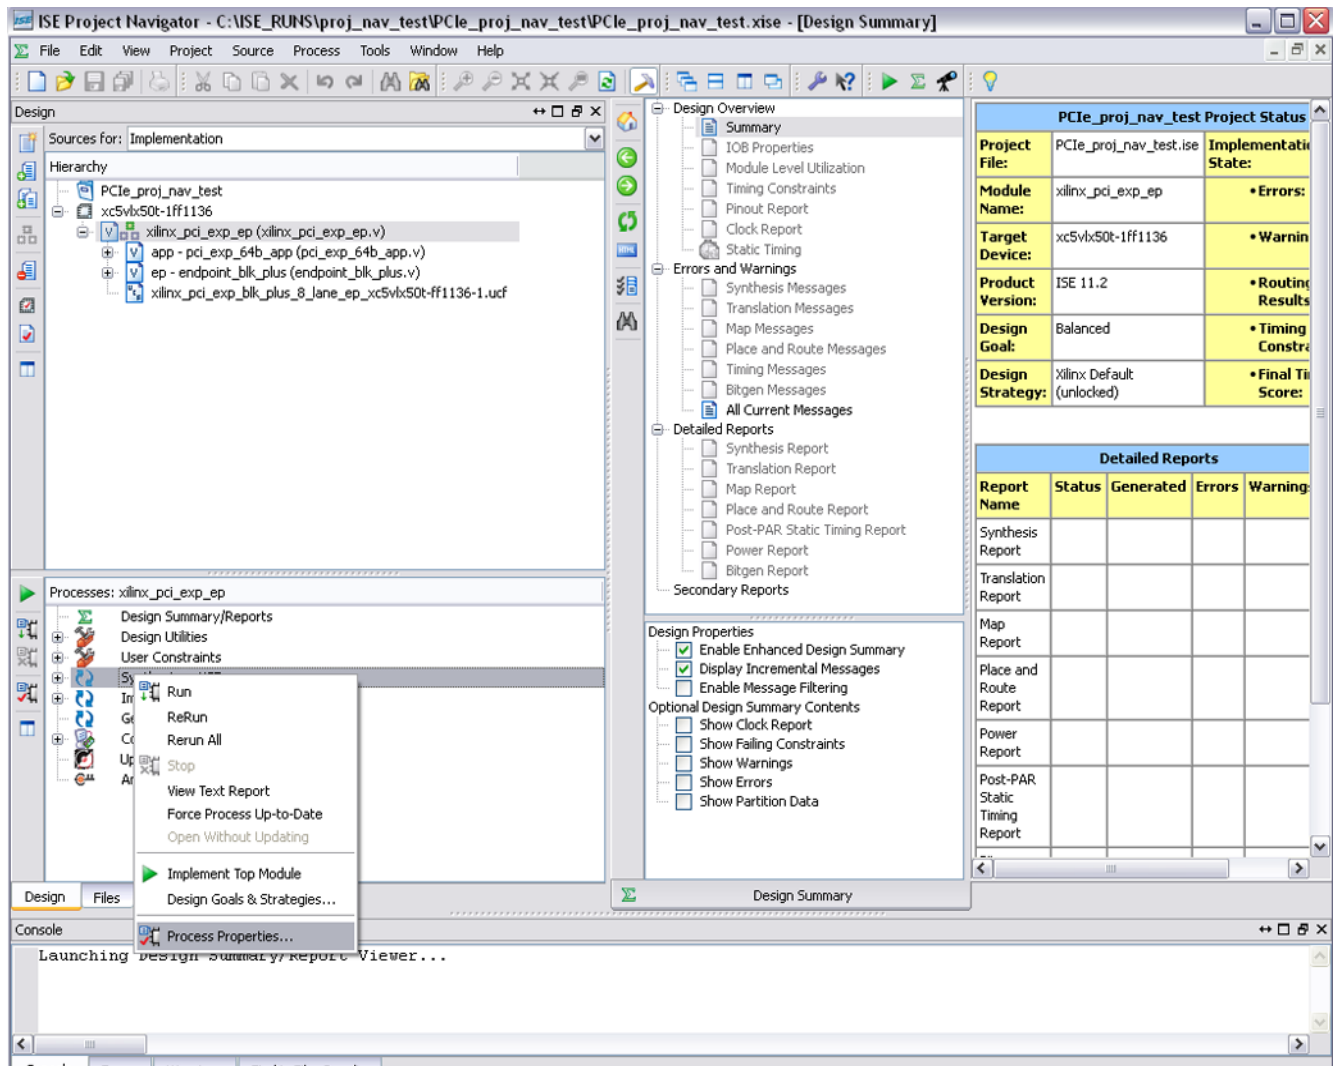

Figure 3-9: Processes Window: Synthesize - XST Properties
- From the Processes window, right-click Synthesize - XST and select Properties, as displayed in Figure 3-9. The Process Properties dialog box appears.